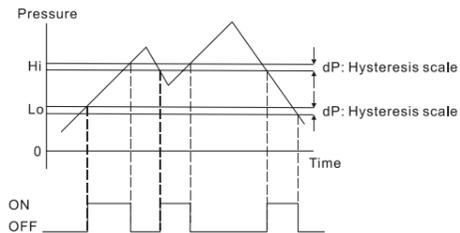

Figure 3: Output in Window Mode
- Window Mode: Set up pressure Hi/Lo. When the pressure measured is bigger than Hi or smaller than Lo, the output will be ON. When the pressure measured is bigger than Lo and smaller than Hi, the output will be ON. (See Figure 3: Output in Window Mode)